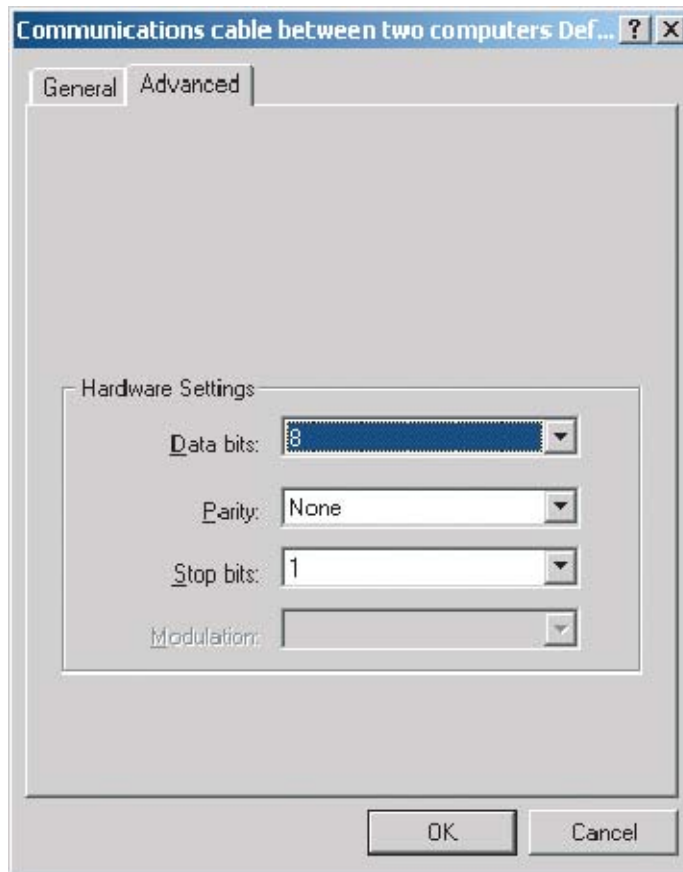

Figure 141: Change Default Preferences - Advanced tab
8. Click the Advanced tab. See Figure 141: Change Default Preferences - Advanced tab on page 212.